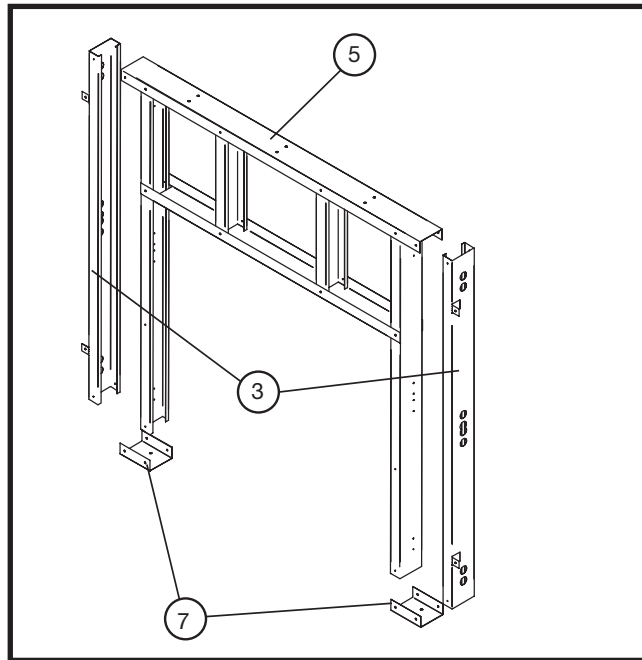

Figure 15: Side stud placement.
Attach the outer side studs (3) to the top of the header stud (5) (Figure 15).